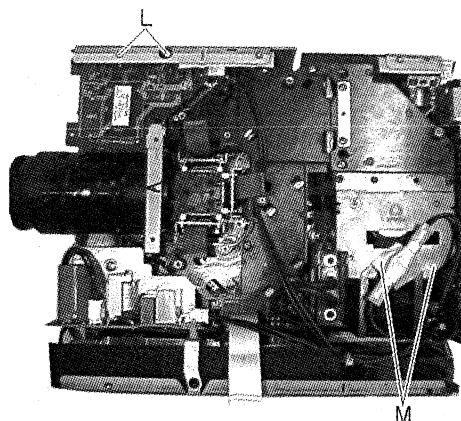

Fig. 4.11
4.6 Removing the mains filter (fig. 4.11)
4.7 Removing the temperature switch (fig. 4.11)